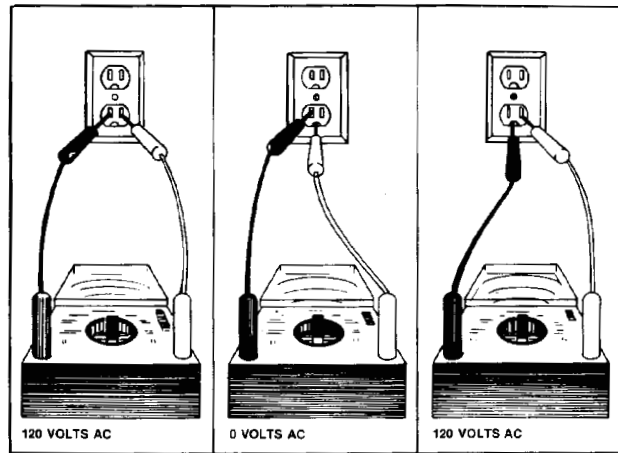

Figure 1-6
It is the responsibility of the person installing the appliance to ensure it is adequately grounded and polarized at the point of installation. Local conditions and requirements should be taken into consideration. In cases where only a two (2) prong receptacle is available, it is the personal responsibility of the customer to have it replaced with a properly grounded and polarized three (3) prong receptacle (*Figure 1-6*).